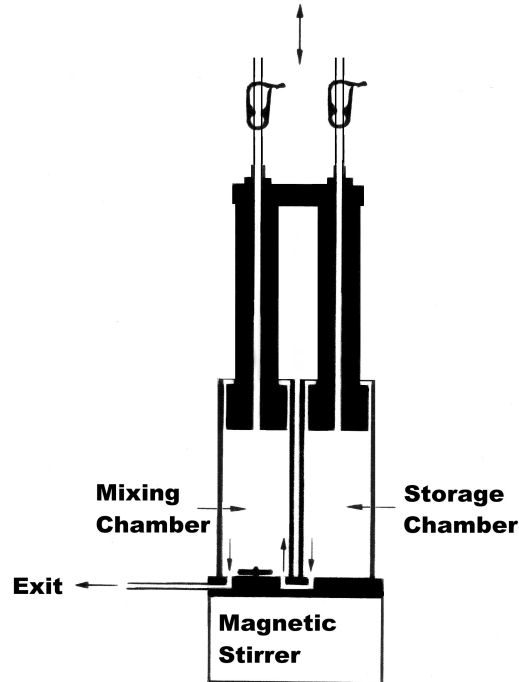

Fig. 1 Linear Gradient Former
To form linear gradients, the Jule Gradient Former is arranged as shown in Fig. 1. A linear gradient is one in which the concentration of the liquid changes at a constant rate with respect to volume.
To make perfect linear gradients the geometry of the two chambers must be identical, and the chamber fluid levels must drop at the same rate in each chamber during operation. The Jule Gradient Former is an improvement over the basic gradient former because the fluid levels in the mixing chamber and storage chamber are displaced equally. This is accomplished by utilizing the dual piston assembly to dispense the fluid at an equal rate in each chamber, regardless of differences in fluid viscosity or density (see fig. 1.). During operation, liquid flows from the storage chamber into the mixing chamber. The concentration of the stream of gradient exiting from the mixing chamber changes at a constant rate with respect to volume. The result is a perfectly linear gradient varying between the two original limits. The gradient can be increasing or decreasing in concentration, depending upon the relative concentrations initially placed in the two chambers.
- 1) Refer to Fig. 1. During Operating Procedures.
Note: Make a practice gradient before attempting final gradient. Refer to Fig. 1.